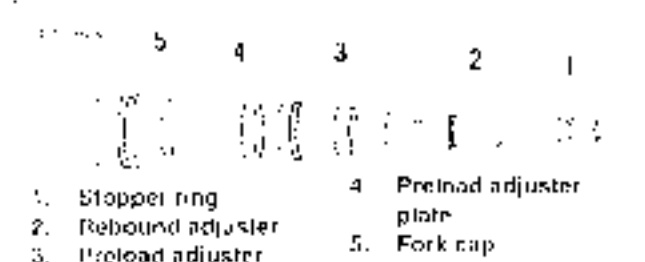

Figure 2-87. Fork Cap
1. See Figure 2-87. Remove the stopper ring (1).
2. Remove the spring preload adjuster (2).